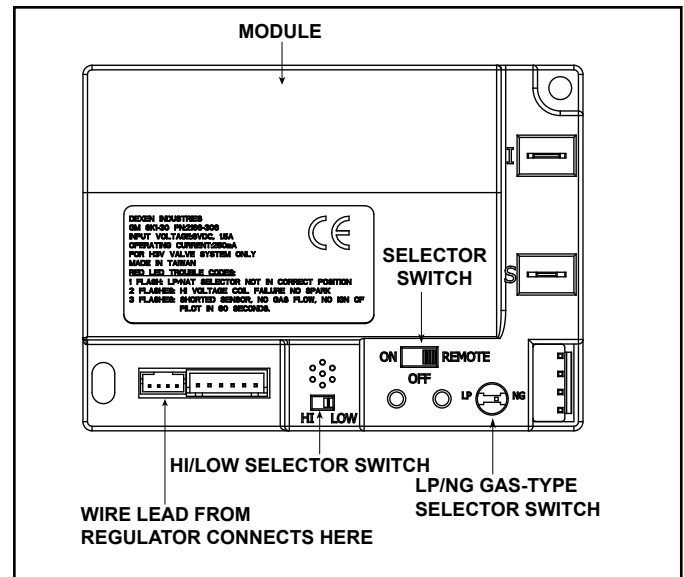

Figure 3.6 Control Module
2. If using a wired wall switch with the module in REMOTE mode, the flame output can be adjusted with the HI/LO selector switch on the module. See Figure 3.6. Note that the flame HI/LO selector switch will become inactive once an remote control (RC300AU) is programmed to the control module. Note that the control module will always ignite the fireplace on HI and remain so for the initial 10 seconds of operation. If the HI/LO is switched to the LO position, the flame output will automatically drop to the lowest setting after the flame has been established for 10 seconds. After this 10 second period, the flame can be adjusted from HI to LO with the switch.
- Locate the module selector switch. (See Figure 3.6).
- Wait five (5) minutes to allow possible accumulated gas to clear.
- Verify the ON/OFF/REMOTE switch is in the REMOTE position. Green LED light will blink three times and the control module will beep once 5 seconds later when ready. See Figure 3.6.